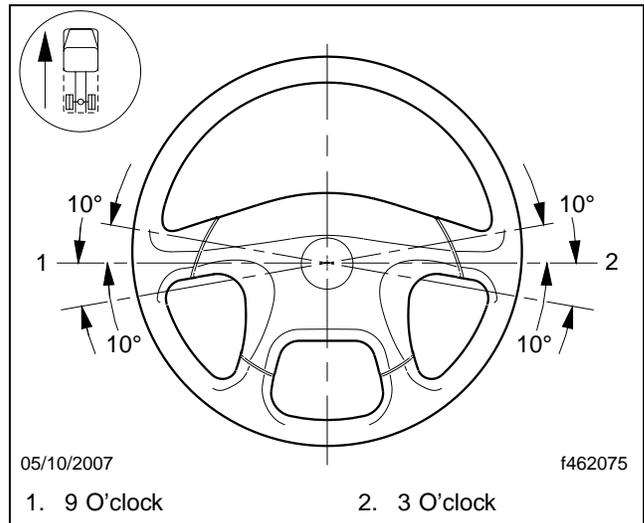

Fig. 12, Steering Wheel Centered
45. Make sure that the steering wheel is within 10 degrees of center as shown in **Fig. 12**. If it is not, remove and center the steering wheel.